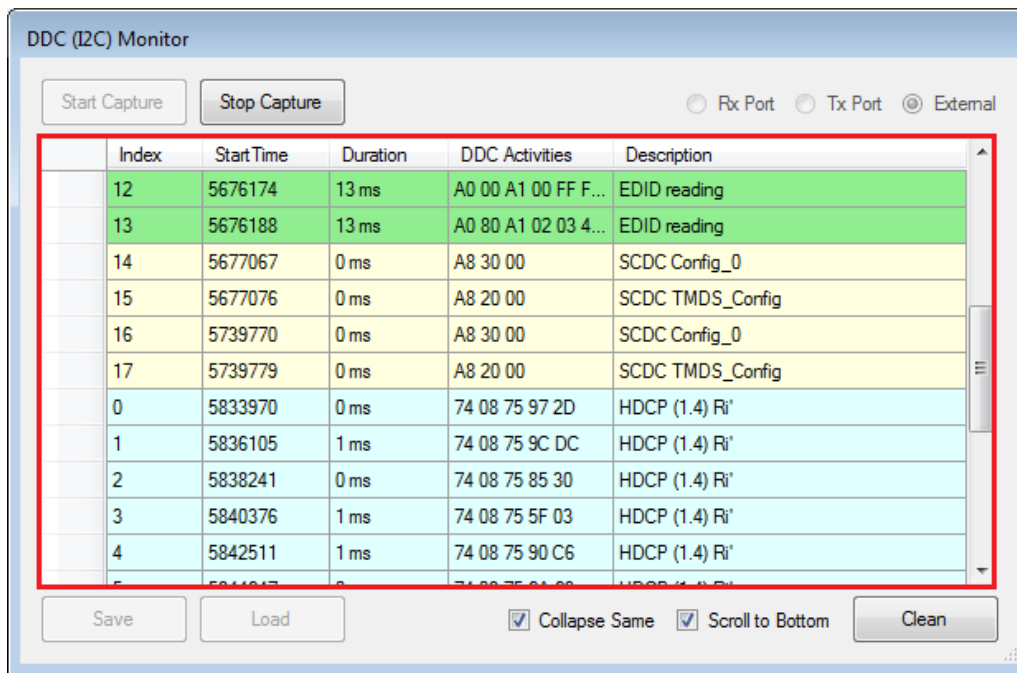

Figure 4.21. DDC Monitor Activities Window
- Click the Start Capture button to start the DDC monitor (Figure 4.21). DDC activities are logged and decoded.
- Check Scroll to Bottom option (Figure 4.21) to scroll the current log to the bottom.
- Check Collapse Same option (Figure 4.21) to collapse the same log.
- Click the Clean button (Figure 4.21) to clean the current log and decoding data displayed in the window when necessary.
- Click the Save button (Figure 4.21) to save the current log to local PC.
- Click the Load button (Figure 4.21) to load back log file from PC.
- Right click the log area, the area in red box (Figure 4.21), to show filter items.